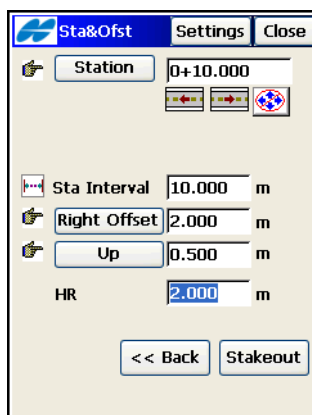

Figure 9-34. Station &amp; Offsets
3. In the Stakeout *Sta&Ofst* screen (Figure 9-34 on page 9-26), set the station along the curve being staked, the station staking interval, the left or right offset of the stakeout point with respect to the curve, the Up/Down Height offset, the height and the type of the antenna height (GPS mode), or the height of the rod (target) (TS mode).